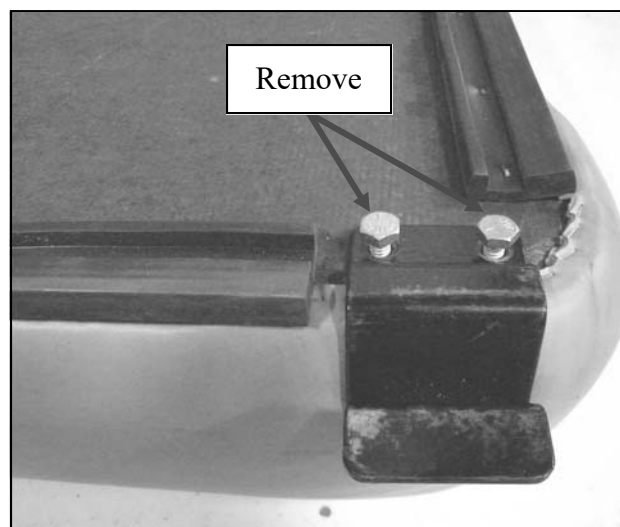

Fig. 9.1: Seat Base
- 9.3 Mount Seat belt to the driver side mounting bracket on side frame using (1) 7/16-14 x 1" hex head bolt and 7/16-14 lock nut as shown in figure 9.1. Tighten mounting hardware to 50 ft-lb (67.8 N-m). **(Figure 9.3)**